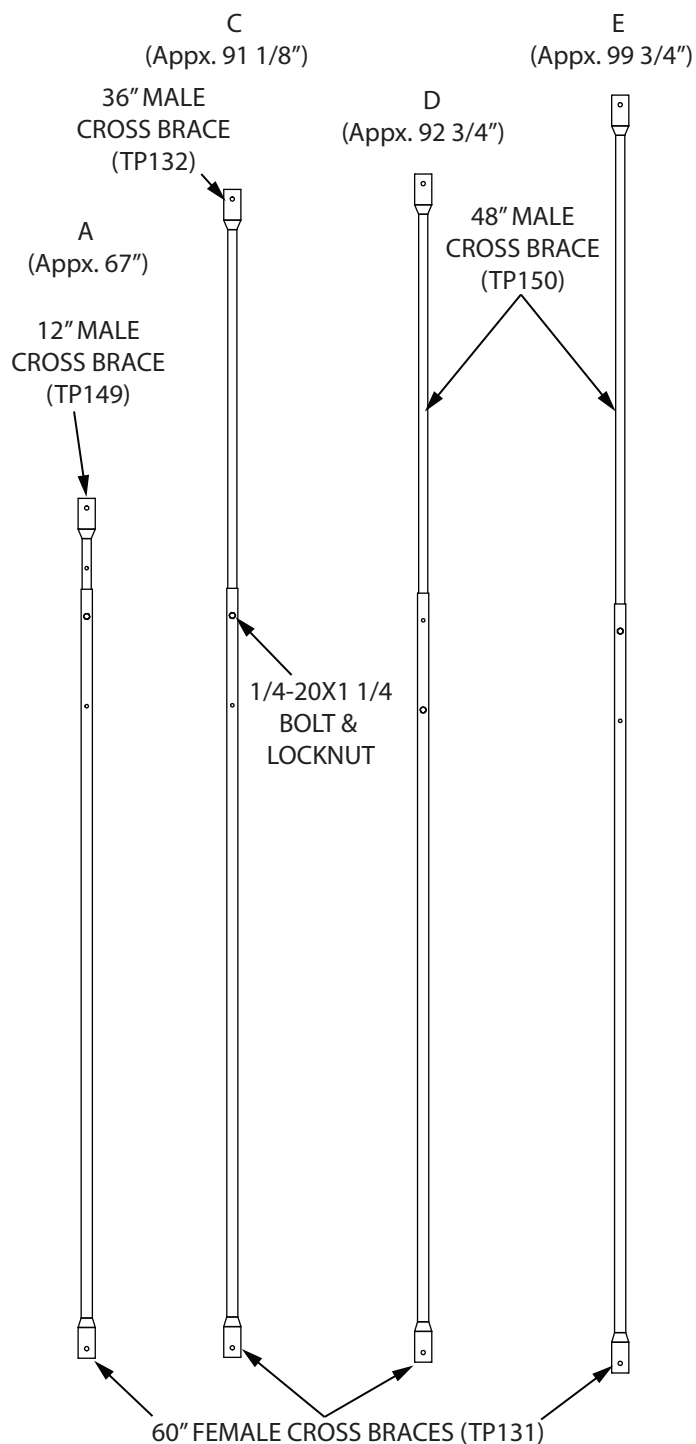

FIGURE 11
- a. Locate the (2) 12" male cross braces (TP149) and (2) 60" female cross braces (TP131). Insert the male cross braces into the female cross braces. Use (2) provided 1/4-20 x 1-1/4" bolts and locknuts to secure these cross braces in the hole location to achieve length A. **SEE FIGURE 11**
- b. Locate the (2) 36" male cross braces (TP132) and (2) 60" female cross braces (TP131). Insert the male cross braces into the female cross braces. Use (2) provided 1/4-20 x 1-1/4" bolts and locknuts to secure these cross braces in the hole location to achieve length C. **SEE FIGURE 11**
- c. Locate the (4) 48" male cross braces (TP150) and (4) 60" female cross braces (TP131). Insert the male cross braces into the female cross braces. Use (4) provided 1/4-20 x 1-1/4" bolts and locknuts to secure these cross braces in the hole location to achieve lengths D & E (two each). **SEE FIGURE 11**
a. The two cross braces that run diagonally from the top ladder section to the top/middle leg joint are the shortest. Using pole length A (approximately 67"), attach to the support brace tabs on top ladder section with (2) provided 5/16-18 x 3/4" bolts and locknuts. Attach other end of cross brace assemblies to the support brace tabs of top/middle leg joints. Finger tighten with (2) provided 5/16-18 x 1-1/4" bolts and locknuts to temporarily hold these cross braces in place. **SEE FIGURE 11, 12, and 13**
b. The two cross brace poles that run diagonally from the top/middle leg joint to the middle/bottom ladder joint are longest. Using pole length E (approximately 99-3/4") attach to the lower support brace tabs of leg joints using (2) provided 5/16-18 x 3/4" bolts and locknuts. Attach opposite end of pole length E to middle support brace tabs of ladder joints using (2) previously finger tightened 5/16-18 x 1-1/4" bolts and locknuts. **SEE FIGURE 11 and 12**
SEE FIGURE 11 and 12
d. The two cross braces that run diagonally between both rear legs are both the same length. Using pole length C (approximately 91-1/8"), attach to the support brace tabs on leg joints using (4) provided 5/16-18 x 3/4" bolts and locknuts. **SEE FIGURE 11 and 13**